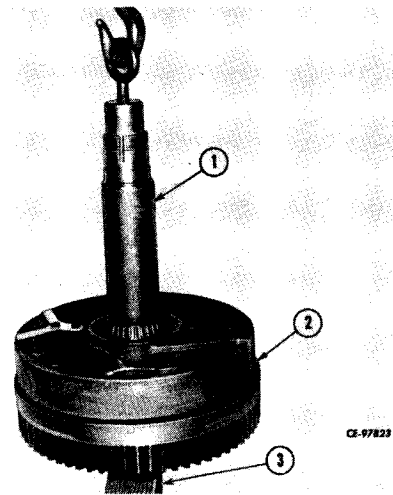

Figure 14-16
Position a piece of wood (3, Fig. 14-16) under drum shaft (1) and pry down on clutch assembly (2) driving clutch hub outer bearing from drum shaft (1).